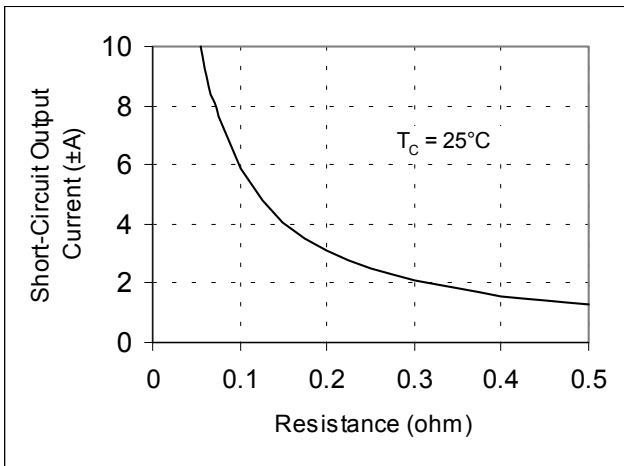

Figure 1. Typical Short-Circuit Output Current Case vs. Current Limiting Resistors ($\pm R_{CL}$)
3. It is recommended that external current limiting resistors ($\pm R_{CL} \geq 0.068\ \Omega$) be used to ensure that 10 A is not exceeded. See Figures 1, 2 and 4 for R_{CL} application information.